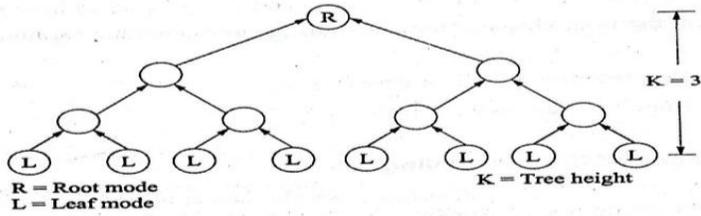

Figure 2.41
1	<p>Briefly explain the different schemes used to generate a solid model. N/D'15 (or) Explain in detail B-rep solid modelling approach. BTL5 - N/D'16, (13 marks)</p> <p>A representation scheme is defining as a relation which maps a valid point set into a valid model. For example, a constructive solid geometry (CSG) scheme maps the valid primitive into the valid solid via Boolean operations. It possesses the following properties,</p> <ul style="list-style-type: none"> • It is closed regular set. There should not be any dangling portions. • It is a semi - analytic set. It does not oscillate infinitely fast anywhere in the set. <p>Out of which, the following two basic approaches are important from our subject point of view.</p> <p>(1) Constructive solid geometry (CSG) (2) Boundary representation (B - rep)</p> <p>1. Constructive solid geometry (CSG):</p> <p>Constructive solid geometry (CSG) is one of the most popular methods of representing and building complex solids. The type of Boolean operations is used in CSG are Union (U), difference (-), and intersection (\cap).</p> <p>Simple Boolean operations have been already described in earlier topics of this chapter. The data representation of CSG objects is represented by a binary tree. Directed graph scheme is used to store the model in the data structure.</p> <p>The general form of the tree – type data structure used in CSG approach is shown in figure 2.41. Any node may have one parent node and two child node.</p> <p>A balanced tree can be defined as a tree whose left and right subtrees have almost an equal number of nodes. The creation of balanced or an unbalances tree is entirely dependent on the user and it is related to how the primitives are combined.</p>